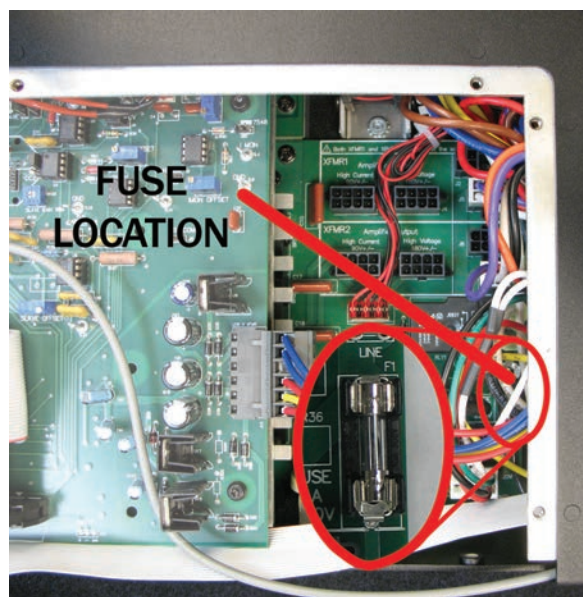

Figure 9.2 – Fuse F1 Location
1. Turn Off (O) the amplifier and disconnect the AC mains.
3. Locate Fuse F1 (see **Figure 9.2**). Remove fuse and inspect. Replace, if necessary, with same type fuse (T1.6A L 250V).